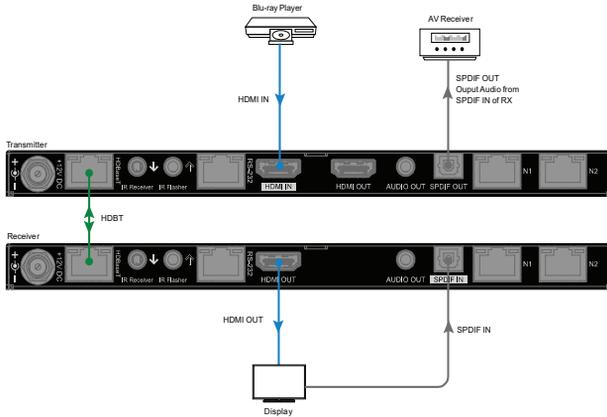

Figure 2: To return SPDIF inserted audio
- Set Pin1 of transmitter (TX) to “up”, audio return mode. And,
- Set Pin1 of receiver (RX) to “down”, SPDIF IN mode.
- After above settings, audio inserted via RX SPDIF IN port can be returned back to TX and output from TX SPDIF OUT. See Figure 2.